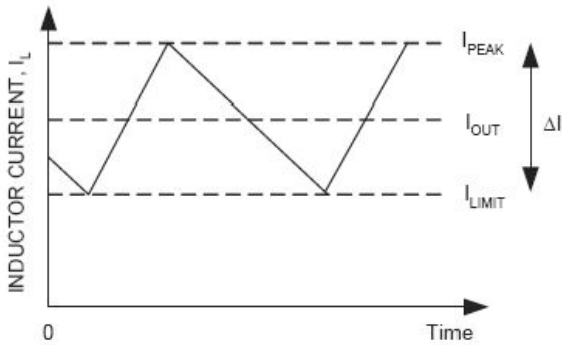

Figure 2. Current-Limit Algorithm
The current-limit circuit employs a "valley" current-sensing algorithm (See Figure 2). The CX8507 uses the low-side MOSFET's RDS(ON) of the synchronous rectifier as a current-sensing element. If the magnitude of the current-sense signal at PHASE pin is above the current limit threshold, the PWM is not allowed to initiate a new cycle. The actual peak current is greater than the current limit threshold by an amount equals to the inductor ripple current. Therefore, the exact current-limit characteristic and maximum load capability are the functions of the sense resistance, inductor value, and input voltage